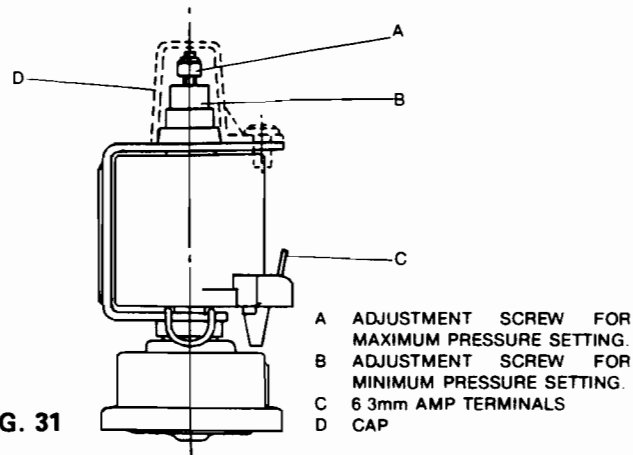

FIG. 31
b) Adjusting Minimum Pressure (see Fig. 31)
- (i) Remove Cover (D)
- (ii) Disconnect one of the electrical connections of the Modureg (C).
- (iii) The minimum rate pressure adjustment has to be done with decreasing pressure, by turning the minimum rate adjustment nut (B) anti-clockwise until the desired minimum outlet pressure is obtained.
c) Adjusting the Maximum Pressure (see Fig. 31)
- (i) Adjust the maximum pressure by turning the maximum rate adjustment nut (A) clockwise to increase the pressure, and anti-clockwise to decrease, until the desired pressure is obtained. (See Table 4). Turn off the D.H.W. taps.
- (ii) Replace Cover (D)